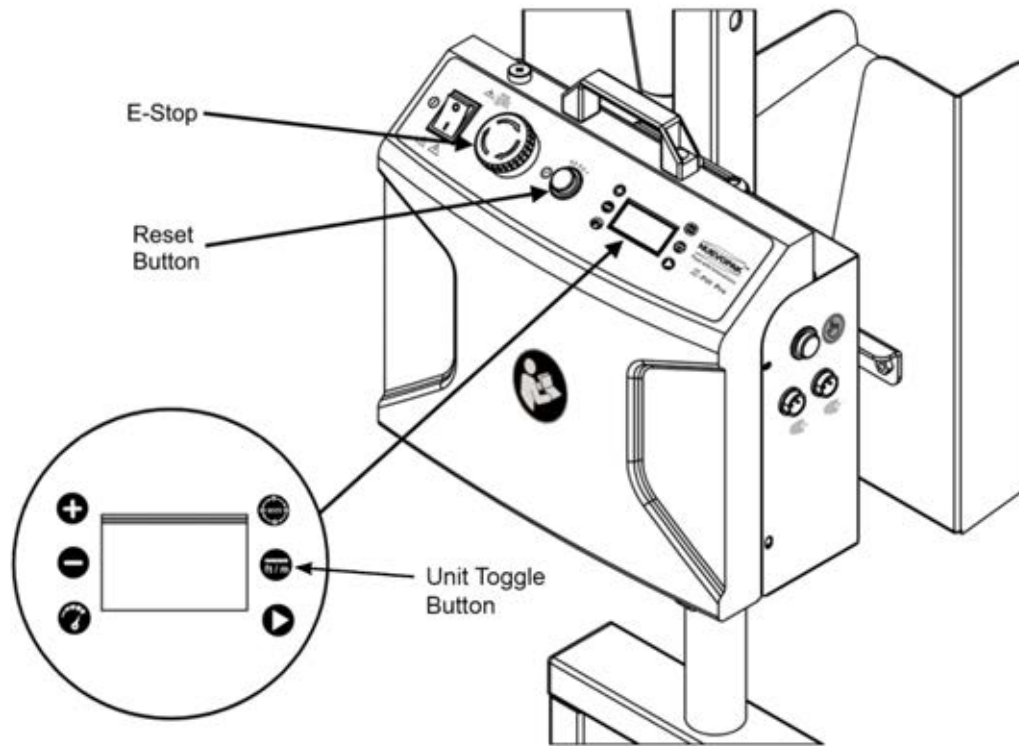

Figure 14 Units Setting
- ❖ **In Metric Units setting** (refer to Figure 14): The digits representing the length of the string of void fill paper are in **meters**. For example, if the display shows 0.5, the preferred string of void fill paper is set to 0.5m [ $\pm 10\%$ ].
- ❖ **In Imperial Units setting** (refer to Figure 14): The digits representing the length of the string of void fill paper are in **inches**. For example, if the display shows 04, the preferred string of void fill paper is set to 40 in. [ $\pm 5\%$ ].
1. Switch the **I/O Main Switch** to [I] (**On**) position (refer to Figure 14).